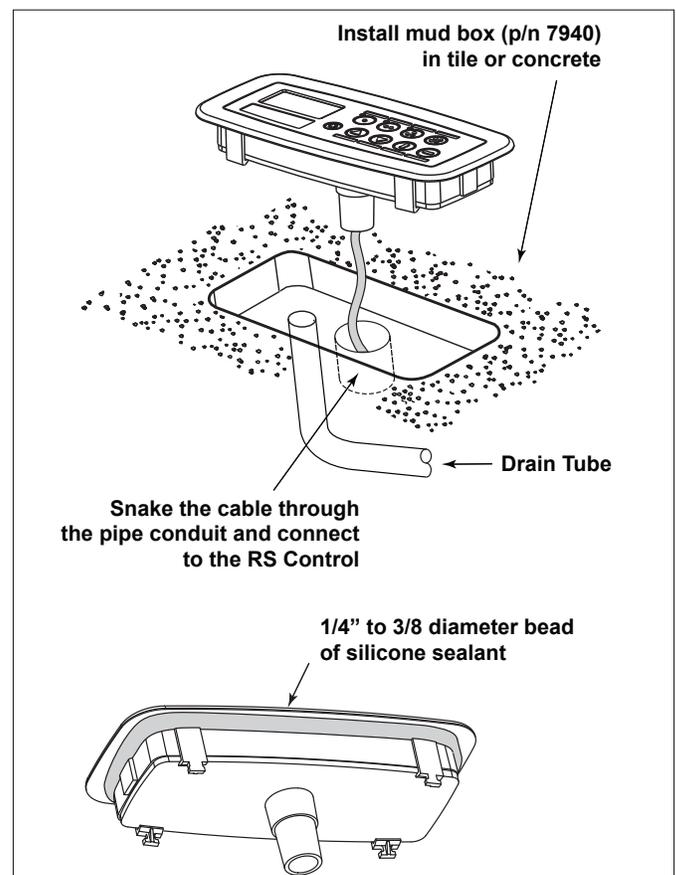

Figure 5. Horizontal Installation with Optional Mud Box
1. Refer to Figure 5 to install the optional mud box for use with concrete or tile.
A 1/2" inside diameter drain tube must be connected to the mudbox to eliminate any standing water around the control. See SpaLink RS Mud Box for horizontal surface installation instructions as shown in Figure 5.
5. Apply a 1/4" to 3/8" diameter bead of silicone sealant all around the part at the corner shown below in Figure 5. Position the SpaLink RS, secured in the snap-on frame, within the mud box and temporarily tape the SpaLink RS control into the correct position. Allow 24 hrs for the sealant to cure, then remove the tape.